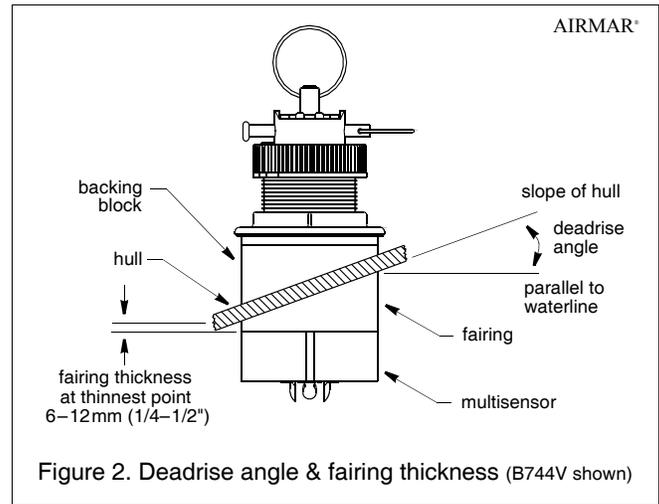

Figure 2. Deadrise angle & fairing thickness (B744V shown)
Nearly all vessels have some deadrise angle at the mounting location. If the multisensor is mounted directly to the hull, the sound beam will be tilted off the vertical at the same angle as the deadrise. A fairing is strongly recommended if the deadrise angle exceeds 10° (see Figure 2).
A backing block is used inside the hull to provide a level surface for the hull nut to seat against (see Figure 2). It is fabricated matching the interior deadrise angle of the boat. After cutting an Airmar fairing, use the remaining section with the cutting guide as the backing block.
1. Measure the deadrise angle of the hull at the selected location using a digital level (see Figure 2).
4. Adjust the cutting fence. The fairing must be between 6–12mm (1/4–1/2") at its thinnest dimension (see Figure 2).